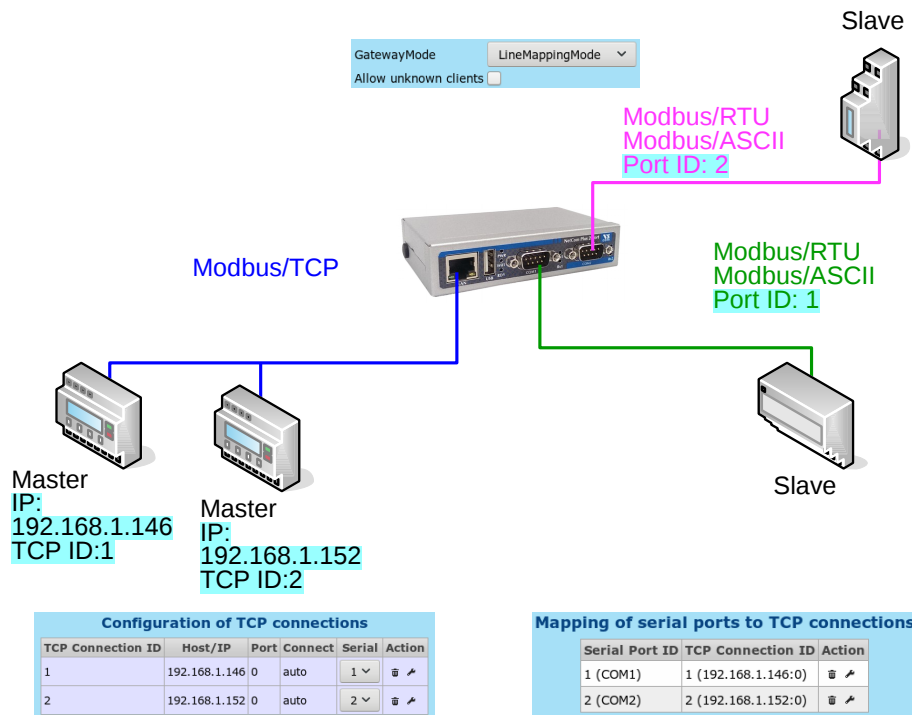

Figure 33: Line mapping for TCP-Masters
**How this works:** The TCP-Masters from the network establish a connection to the ModGate Plus. Once this is done the source address is compared with the existing definitions. If it exists in the configuration, all requests from this TCP connection are forwarded to the specified serial line and the responses are returned. If it does not exist, the requests are either forwarded to port one, or the connection is cancelled if *Allow unknown clients* is not enabled. The figure 33 depicts a setup with two TCP-Masters each talking to a designated line and a serial Slave attached.